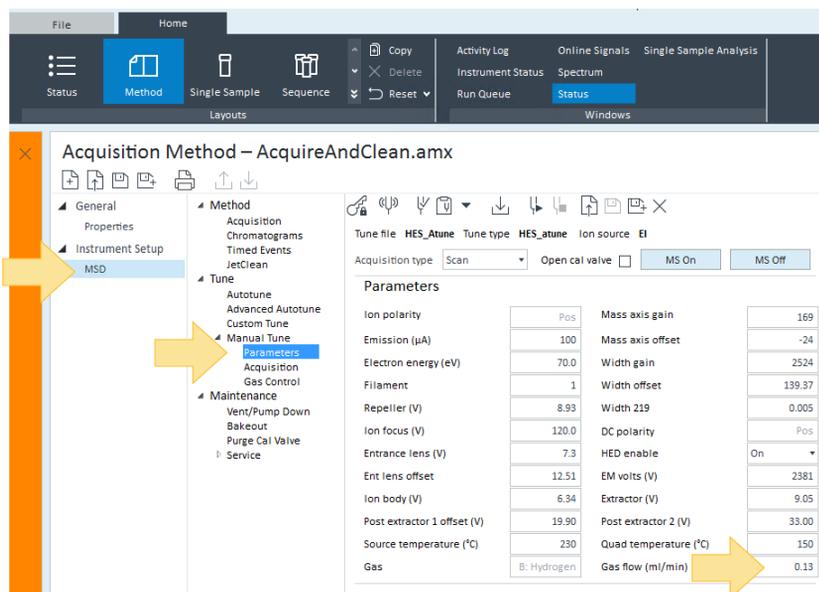

Figure 35. Manual Tune parameters
- b Select **Tune > Manual Tune > Parameters** and set the hydrogen Gas flow parameter to 0.13. When developing your Acquire and Clean method, it is important to obtain the lowest possible hydrogen flow, while still observing good results. (See Figure 35 on page 109.)